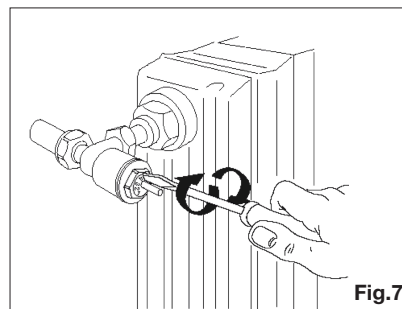

Fig.7
- 2) Pre-set the device, if necessary, by following the relevant instructions or selecting the position from the flow curves (**Fig.7**).